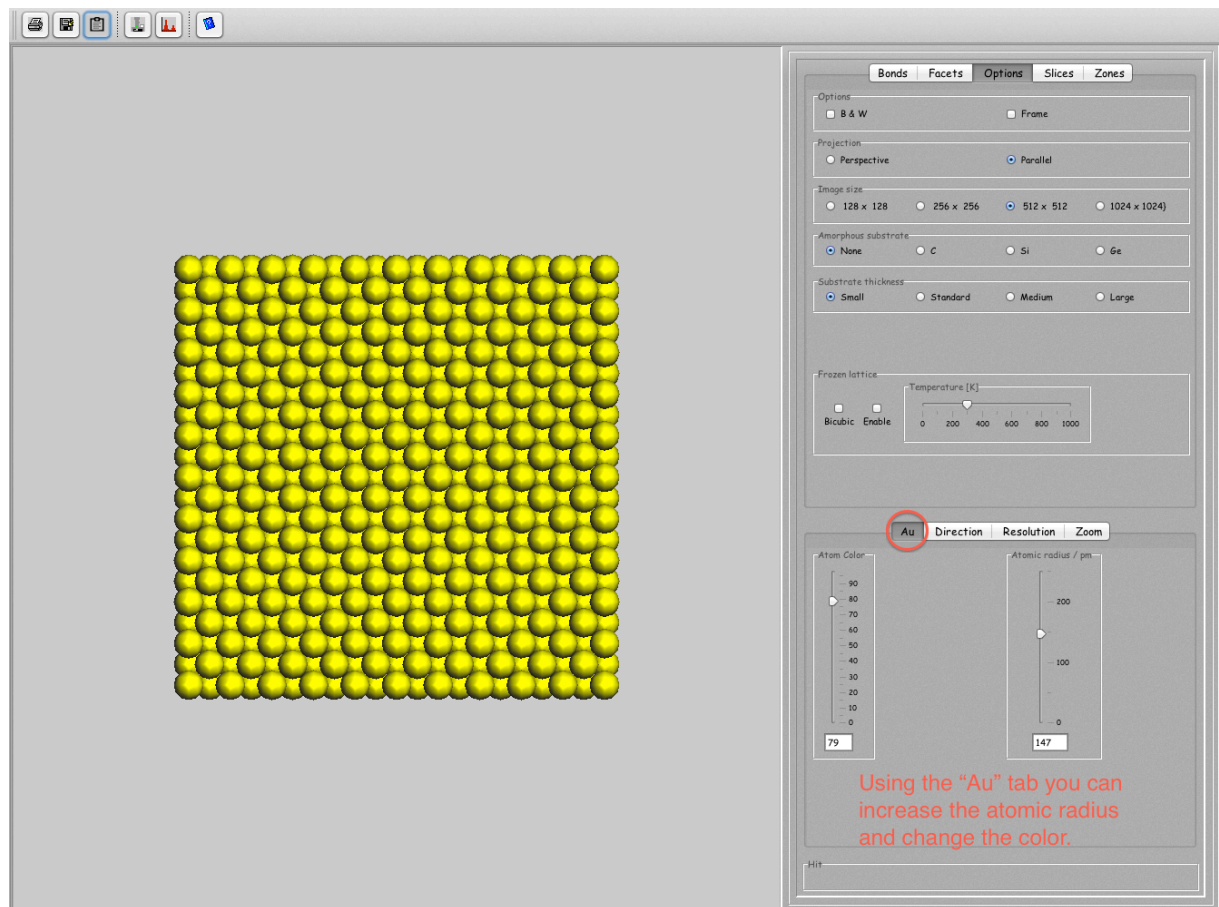

Figure 9: Select the *Au* tab (or atomic symbol tab) to change both atomic radius and atom color.
5. Select the *Au* tab to increase the atom size and/or color (Fig. 9).
### 3.5 Changing the size and color of the atoms (Figure 9)